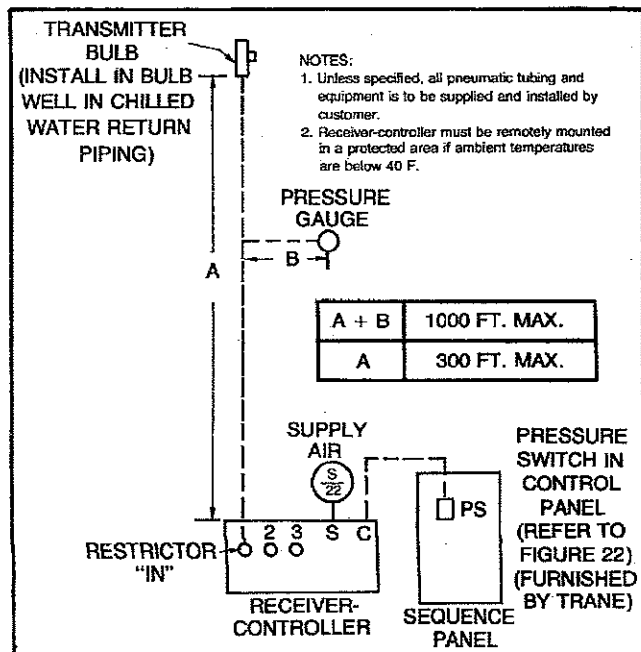

FIGURE 17 - Pneumatic Connections for Four-Step Pneumatic-Electric Temperature Control
Pneumatic piping is required for units with pneumatic-electric control systems. Tubing length between the receiver-controller and transmitter bulb should not exceed 300 feet when using 1/4-inch OD plastic or copper tubing. Also, the total length of tubing used to connect a gauge should not exceed 1000 feet. See Figure 17.
4. Using the pneumatic tubing provided, connect the transmitter bulb to Terminal 1 of the receiver controller. See Figure 17. Secure the tubing with clamps and sheet metal screws provided.